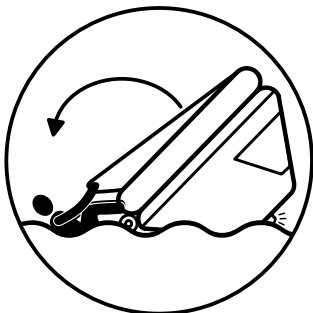

Fig 5 - Pull the righting strap and flip the raft
5. Whilst retaining a firm grip on the righting strap, pull the liferaft over to a boardable position (Fig 5).